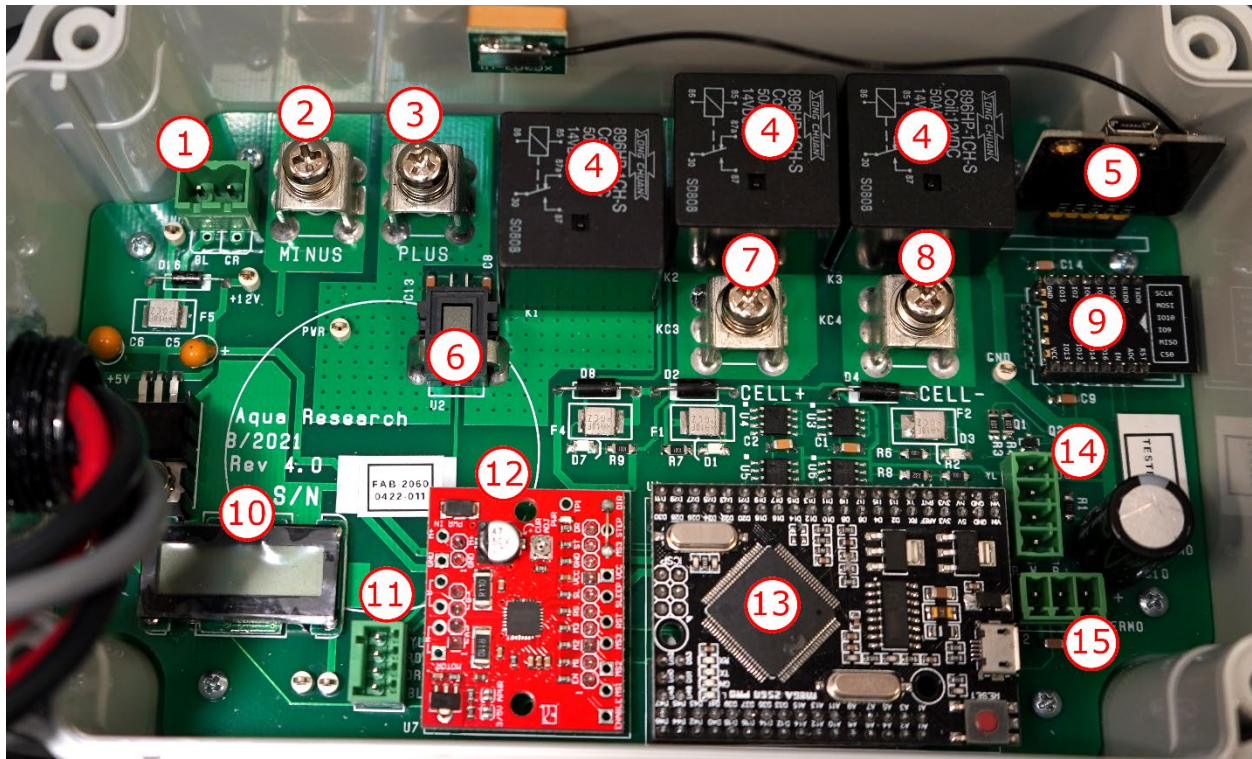
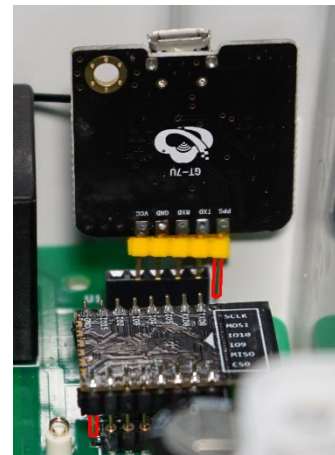

Figure 2-10. Control Circuitry
Figure 2-11. Misaligned Components
The control board is the brain of the STREAM™ system. The primary components of the control circuitry are illustrated in Figure 2-10.
4. Loosen the screws on the power supply +/- and cell +/- terminals (2,3,7,8 in Figure 2-10).
5. Remove the thermowell, LED button, motor, and power switch connectors by pulling the green connectors straight up (1,11,14,15 in Figure 2-10).
The control board is assembled by Aqua Research and most components are permanently affixed. A few components can be removed or exchanged, if necessary. These are the processor, WiFi coprocessor, GPS coprocessor, and stepper motor driver (13,9,5, and 12 respectively in Figure 2-10).
To replace a socketed component, line the component's pins with its sockets, checking that the alignment is correct and no pins are misaligned such as in Figure 2-11. If the system is powered on with socketed components misaligned, it can cause electrical shorts and damage the system. Reference Figure 2-10 for the correct orientation of these components. Once the component is correctly aligned, push down firmly to seat the pins fully into their sockets.
- All connections are secure (points 1,2,3,7,8,11,14,15 in Figure 2-10)
- All socketed components are fully seated (5,9,12,13 in Figure 2-10)